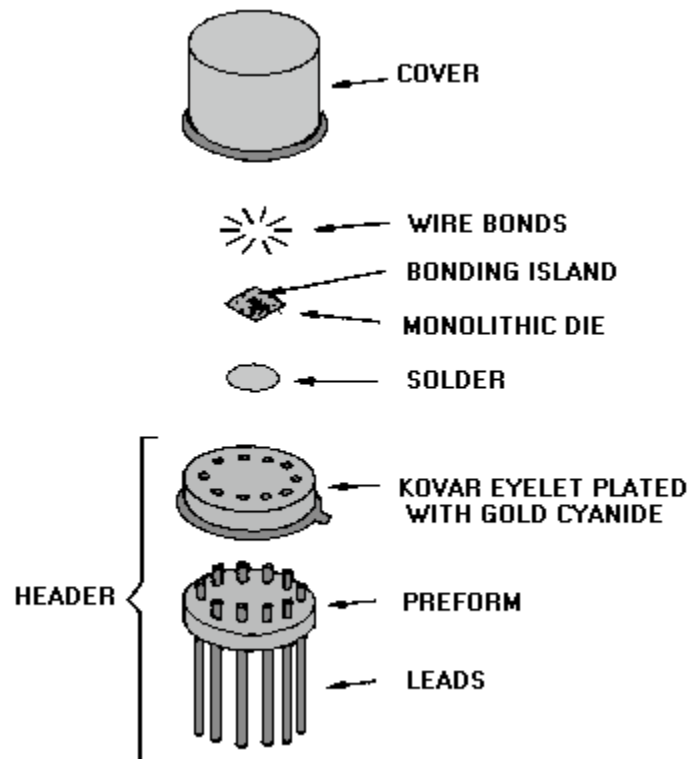
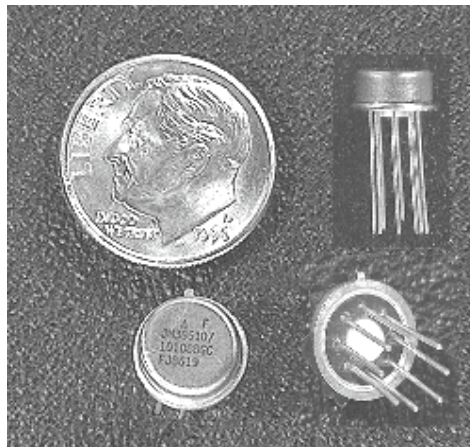

Figure 1-19.—Exploded TO-5.
Figure 1-20.—TO-5 package.
Transistor-Outline Package. The transistor-outline (TO) package was developed from early experience with transistors. It was a reliable package that only required increasing the number of leads to make it useful for ICs. Leads normally number between 2 and 12, with 10 being the most common for IC applications. Figure 1-19 is an exploded view of a TO-5 package. Once the IC has been attached to the header, bonding wires are used to attach the IC to the leads. The cover provides the necessary protection for the device. Figure 1-20 is an enlarged photo of an actual TO-5 with the cover removed. You can easily see that the handling of an IC without packaging would be difficult for a technician.